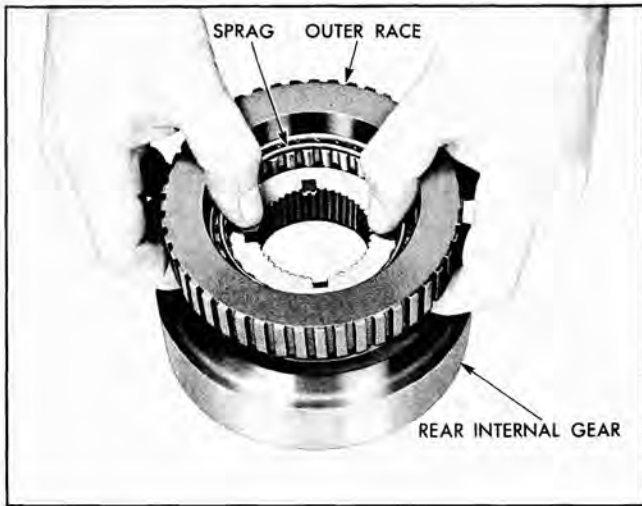

Fig. 91 Installing Sprag Outer Race
3. With shoulder side of sprag up, start sprag and outer race over internal gear (Fig. 91).
1. Compress finer of G-2 plug retainer and remove (Fig. 91).
2. Remove G-2 plug and G-2 valve (Fig. 91).